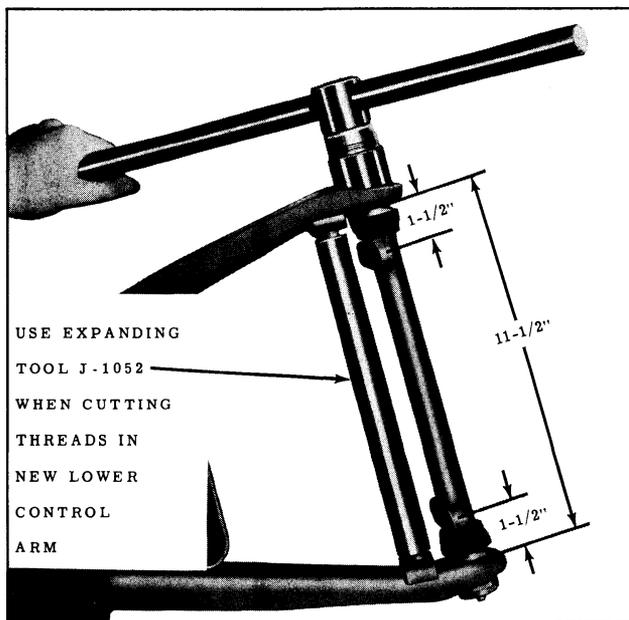

Fig. 4-10 Lower Pivot Shaft Installation
1. Place Tool J-1052 in position and expand until distance between inside surfaces of inner ends of control arm assembly is 11-1/2". (See Fig. 4-10)
5. Remove expander tool and turn shaft as necessary to centralize. (See Fig. 4-10)